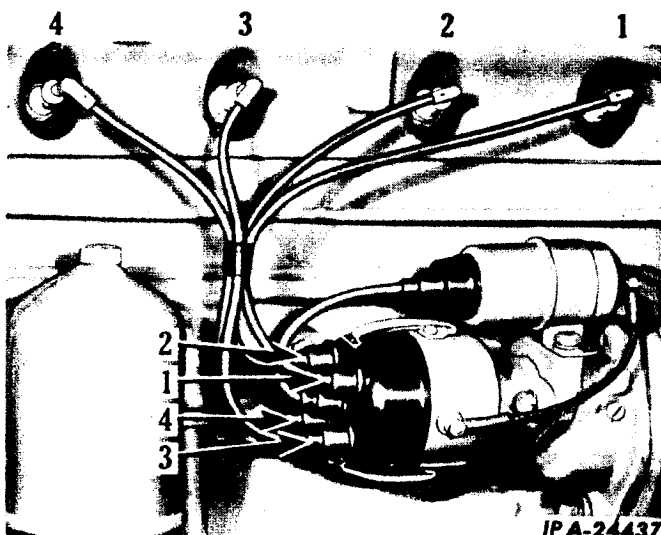
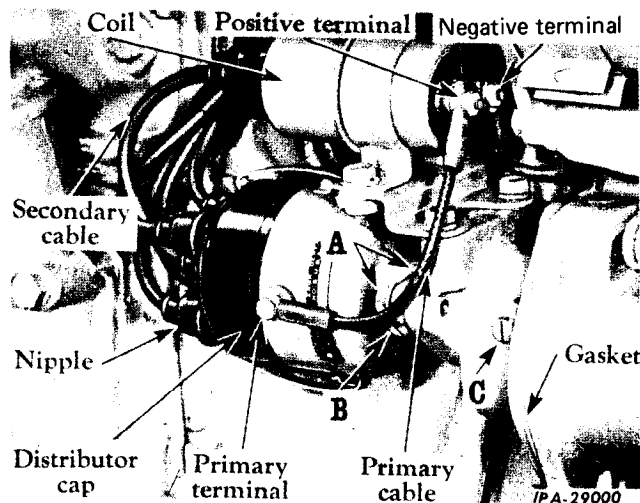

Fig. 20 - Firing Order is 1, 3, 4, 2 (Counterclockwise Rotation).
Fig. 21 - Distributor - Battery Ignition Unit.
5. If the spark plug cables have been removed from the distributor cap, reassemble them in the proper sequence using the rubber nipples provided. The No. 1 plug is connected to the No. 1 distributor terminal, etc., in the same direction as that of the cam rotation (Fig. 20). Assemble the secondary cable in the distributor cap (Fig. 21).